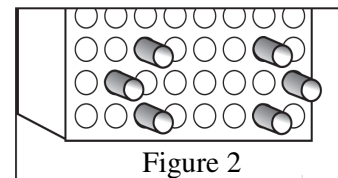

Figure 2
3. **To make a battery holder:** insert six straw sections into the holes in the pipette tip base as shown in figure 2. This configuration of straws can be put in other locations as well.